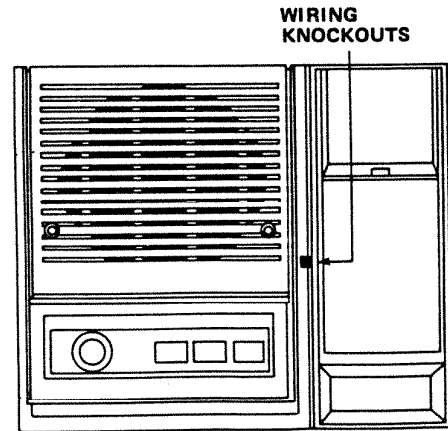

FIGURE 5
4. Align remote speaker wiring knockout with phone cradle knockout. **The phone cradle and the remote speaker should be even at the bottom. The sides of cradle and the speaker should be flush.** See Figure 5.